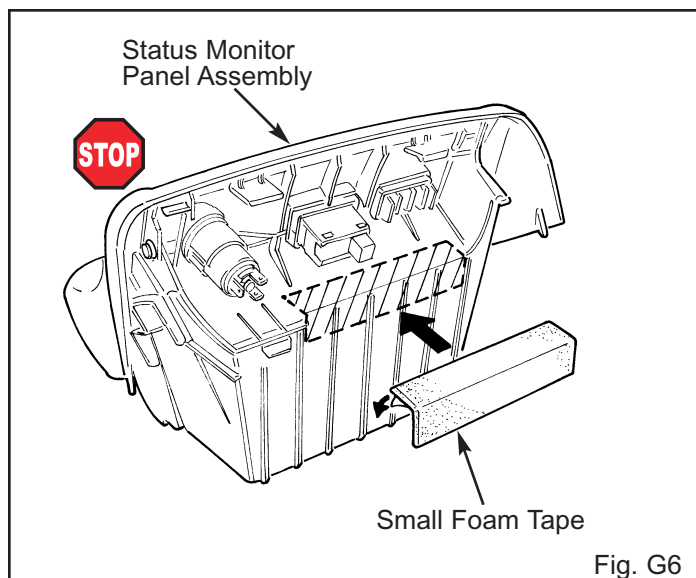

Fig. G6
6. Attach one small piece of foam tape to the back side of the status monitor panel assembly. (Fig. G6)